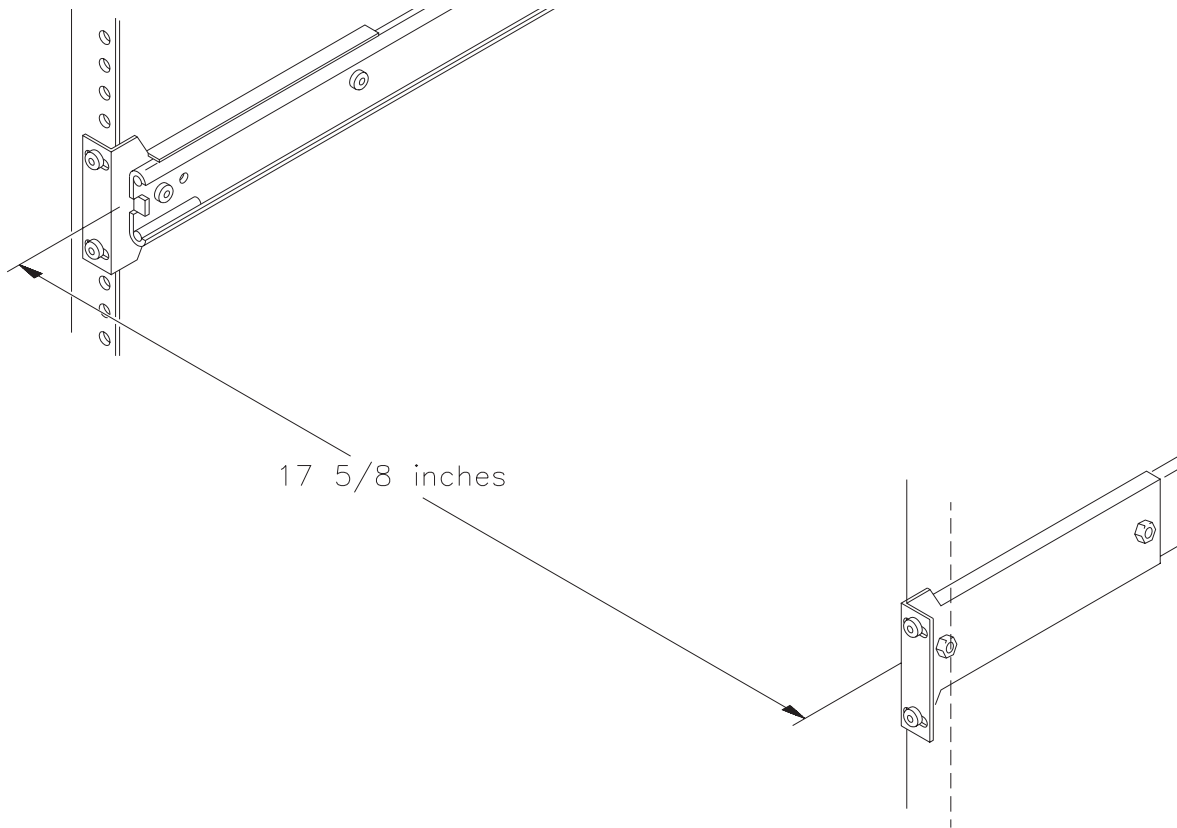

Figure 16 Adjusting the distance between slide rails
4. As shown in Figure 16, adjust the distance between the rail brackets on each side of the cabinet to $17 \frac{5}{8}$ inches (44.75 cm). Measure both the front and back.